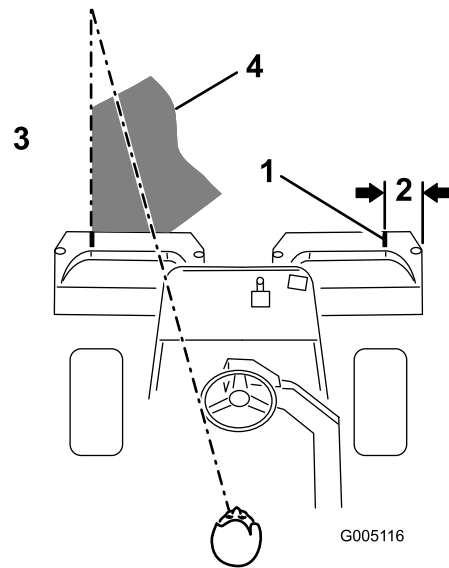

Figure 39
3. Overlap a minimal amount with the previous cut on return passes. To assist in maintaining a straight line across the green and keep the machine an equal distance from the edge of the previous cut, establish an imaginary sight line approximately 6 to 10 ft (1.8 to 3 m) ahead of the machine to the edge of the uncut portion of the green (Figure 39). Some find it useful to include the outer edge of the steering wheel as part of the sight line; i.e. keep the steering wheel edge aligned with a point that is always kept the same distance away from the front of the machine (Figure 39).